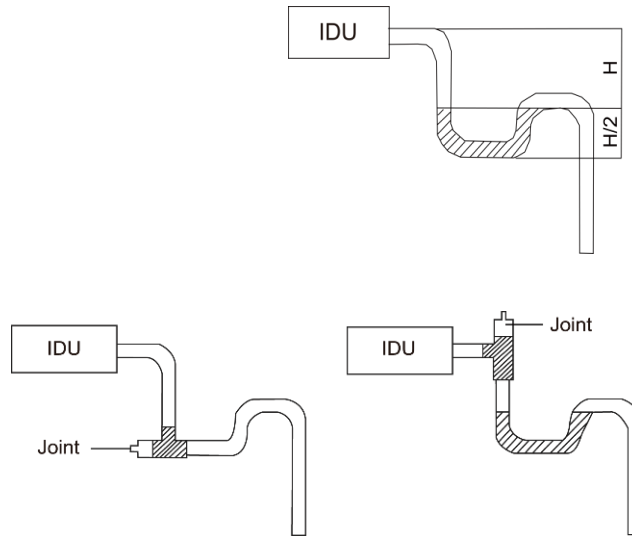

Fig13
- f) Install the trap as shown in (fig13).